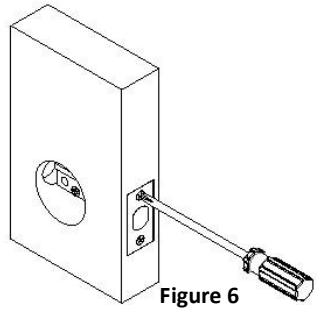
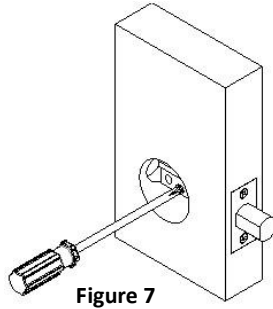
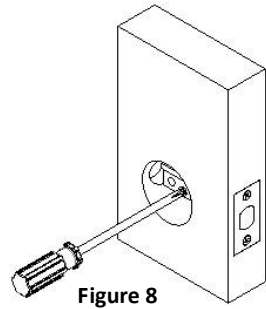

Figure 6
Figure 7
Figure 8
- (1). Hold part ①, rotate part ② by 45°, and push part ② ahead. (2). Rotate part ② by 45° in the other direction to make the card pillar of the lock body be embedded into the matching card hole of 2 ¼ inches (60 mm).
3. After the procedure is completed, secure the Deadbolt Body using a screwdriver, as shown in **Figure 6**. Insert the screwdriver into the cross-shaped hole of the Deadbolt Body. When you rotate the cylinder clockwise, it springs out automatically, as shown in **Figure 7**. When you rotate the cylinder counterclockwise, it springs back automatically, as shown in **Figure 8**.